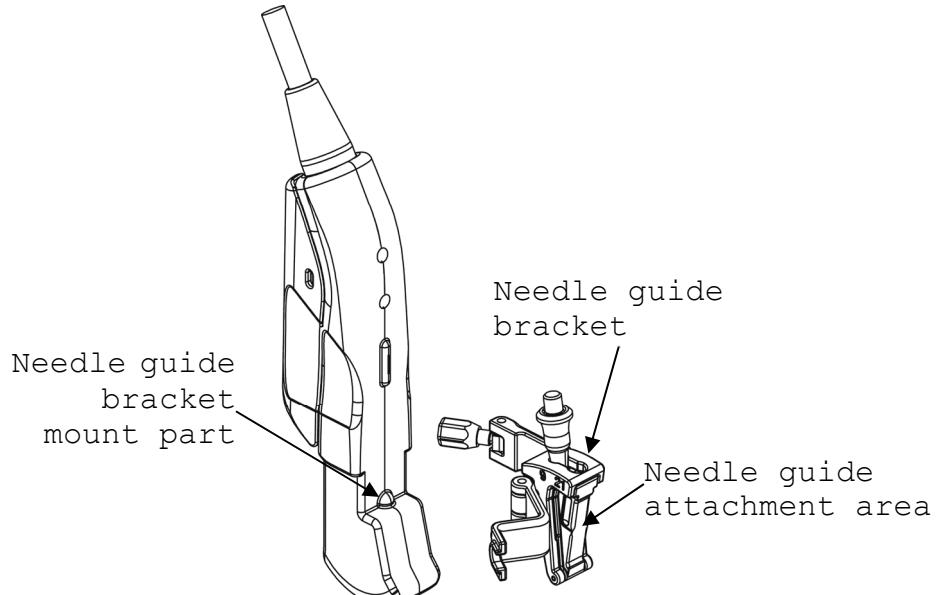

Fig.10 Position for mounting the needle guide bracket
- 1) Insert the recess of needle guide bracket to the needle guide bracket mount part. (See Fig.10)